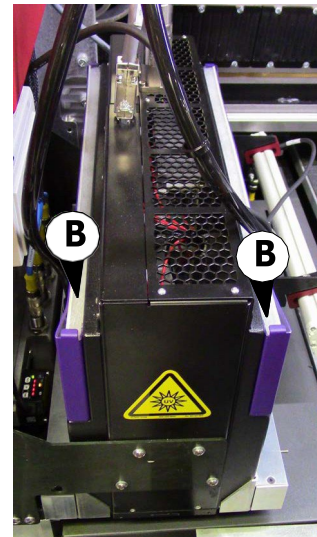

Figure 5-2 LED Lamp, Filter and Basket
2. Grasp a filter and remove, Figure 5-2 (B).